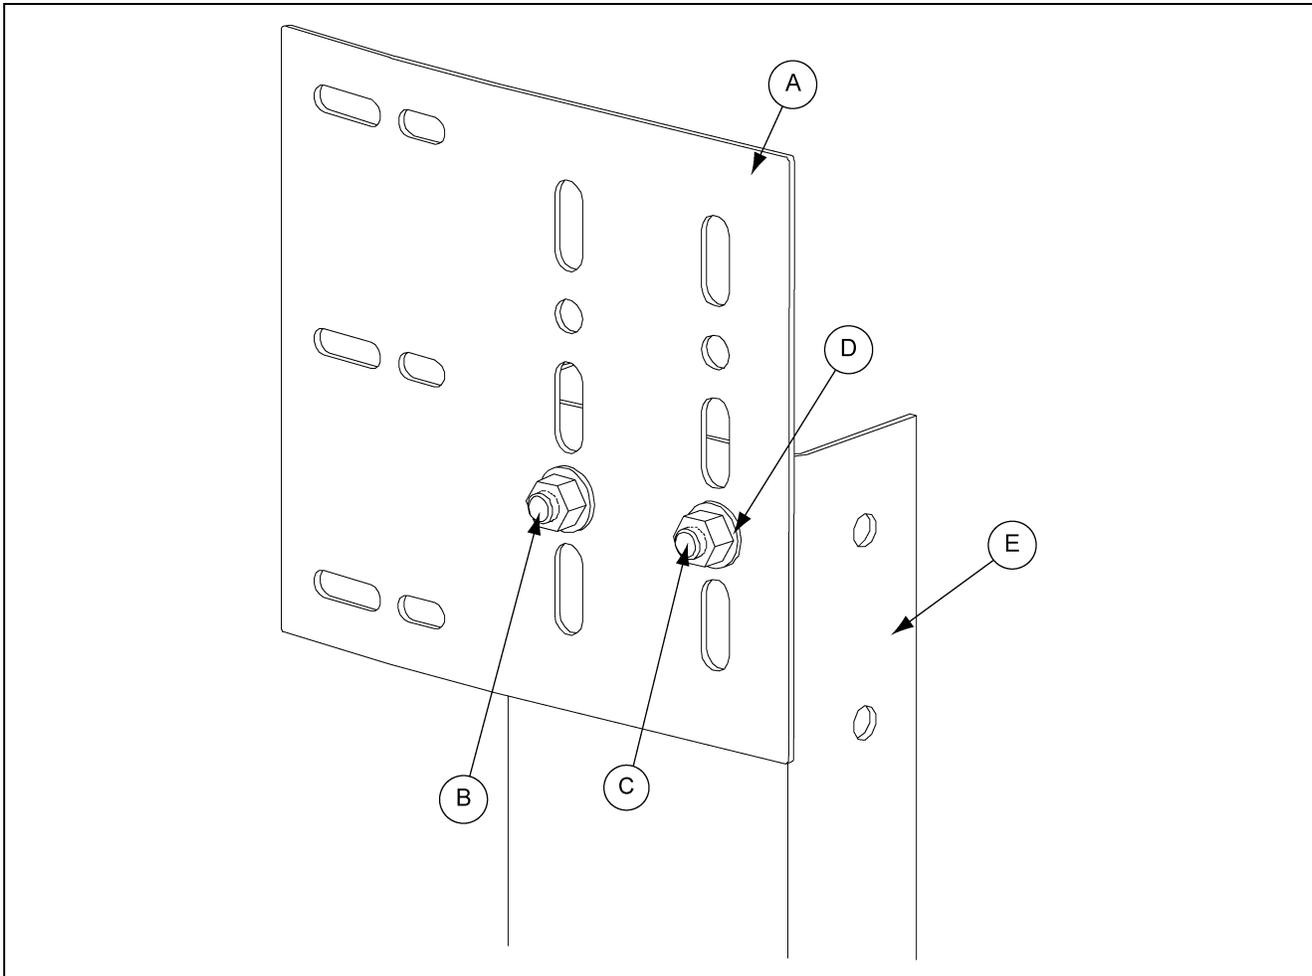

Figure 21
1. Align holes and attach lateral brackets (**STC00355**) to top of bottom columns using two (2) 1/2" x 1" bolts, two (2) 1/2" flat washers, and two (2) 1/2" hex nuts for each column. **NOTE:** Bolt heads go to inside of column. Do not fully tighten bolts. (See Figure 21.)